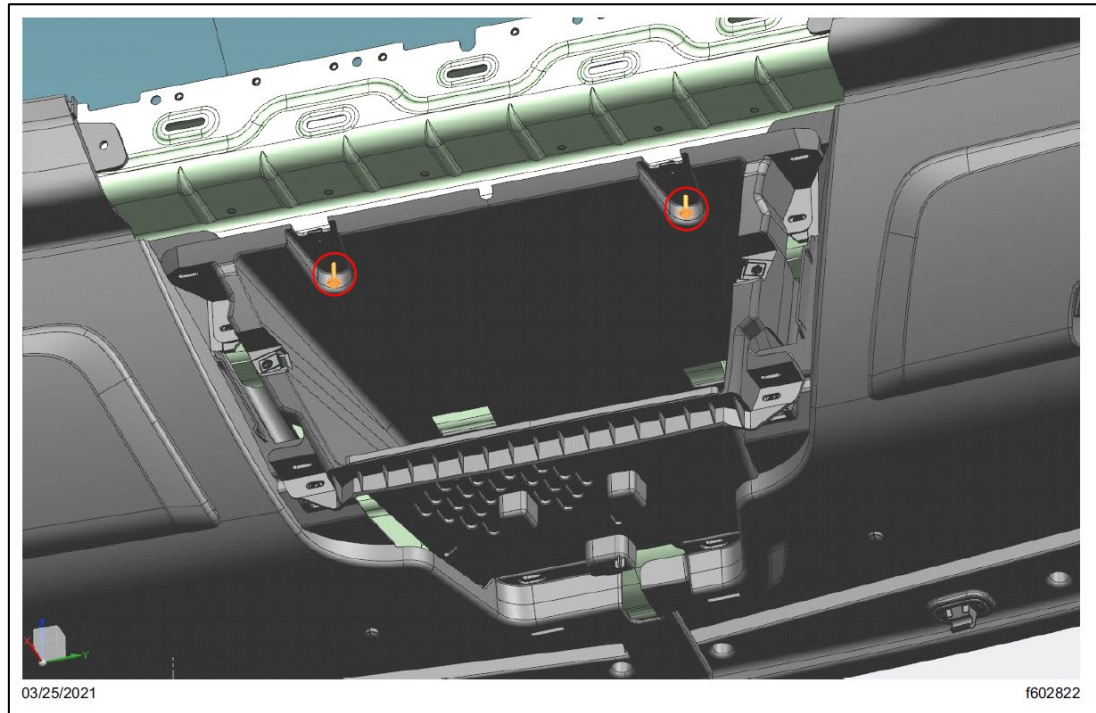

Fig. 49, Attach the Center Overhead Storage to the Cab Roof
14.3. Install the two fasteners that attach the center overhead storage bin to the cab roof as shown in Fig. 49. Tighten the fasteners 11 to 13 lbf.ft (14 to 18 N.m).